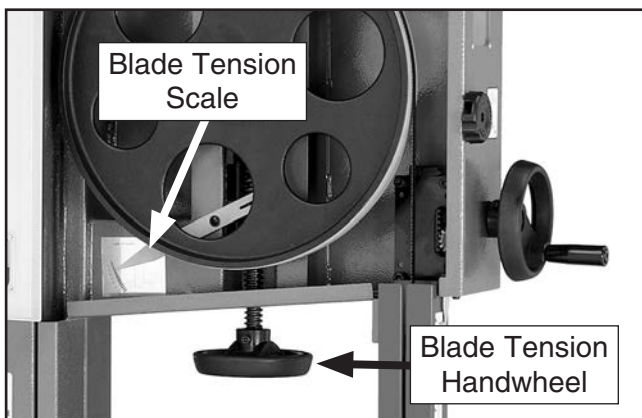

Figure 34. Blade tensioning controls.
4. Engage the quick tension lever, then turn the blade tension handwheel until the tension scale (see **Figure 34**) is between 4 and 6.